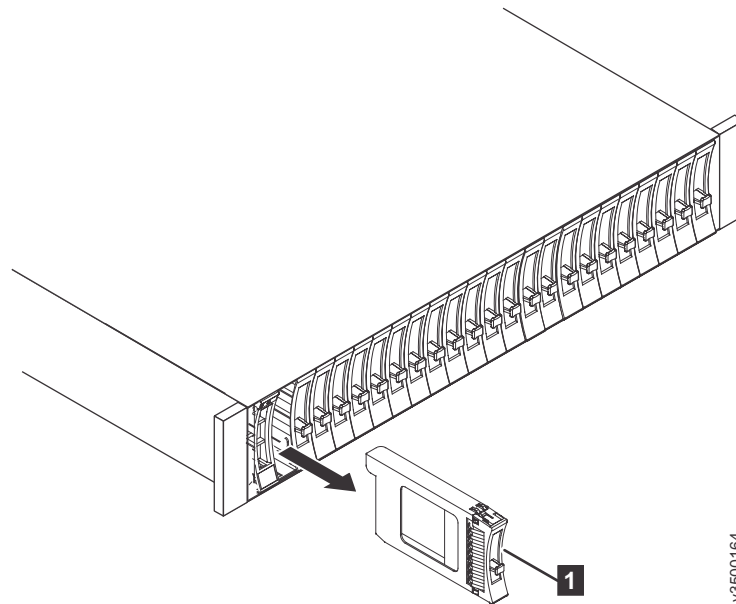

Figure 24. Removing a filler panel
1. Remove the filler panel from the slot into which you want to install the drive (as shown in Figure 24).